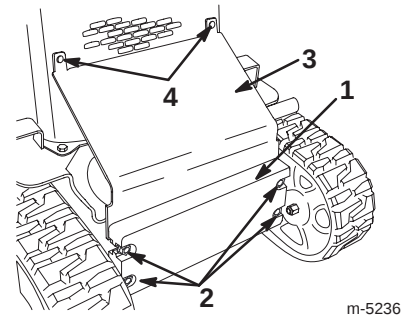

Figure 20
- Loosen the bolts securing the front weight (Fig. 20).
- Remove the carriage bolts and nuts securing the heat shield (Fig. 20).
10. Slide the front screen between the frame and the front weight and secure it to the grill using the carriage bolts and nuts removed previously (Fig. 20).
11. Tighten the bolts securing the front weight (Fig. 20).